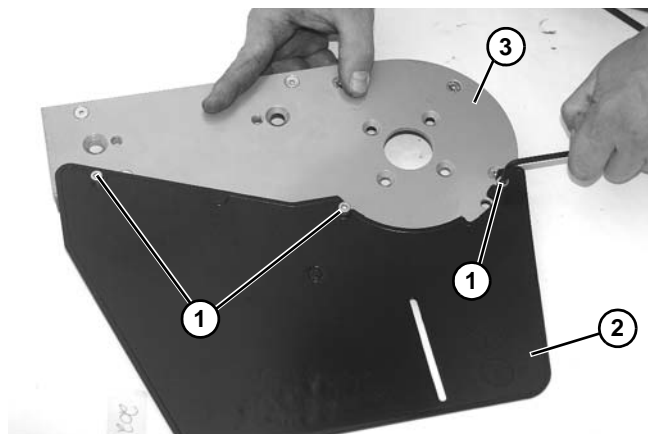

Figure 131
1. Remove three socket head screws (**Figure 131, item 1**) and remove drive plate guard (**Figure 131, item 2**) from drive plate (**Figure 131, item 3**).